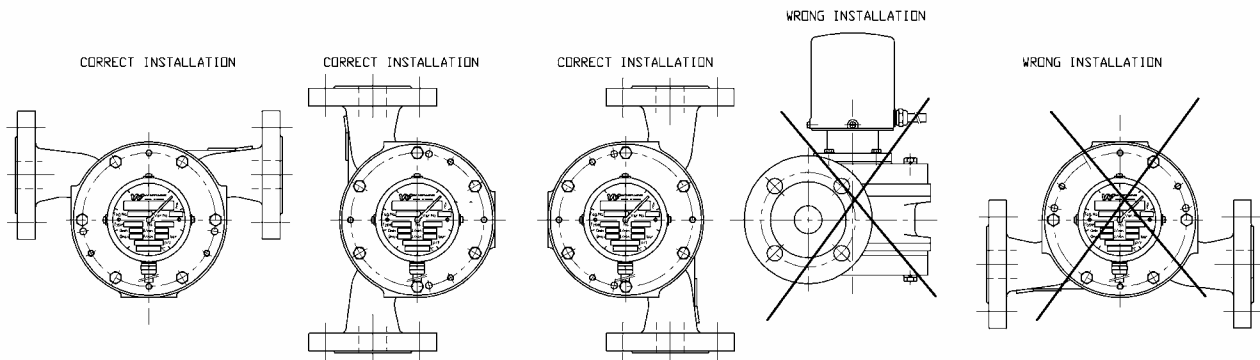

Figure 6
2. Install flow meter to process piping in accordance with the relevant figure 6.